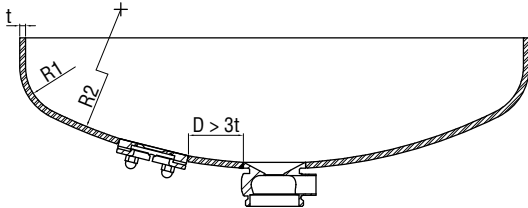

Fig. 1
The minimum distance between two welds (fig.1 – “D”) should satisfy the applied rules for construction.
**CADCON** can be placed anywhere on the bottom of the vessel, but if the project foresees this position outside the large radius R2 (or the free distance between welds is not respected – point 2.2) calculations must be done to determine the need for reinforcement in that area (Fig.1).